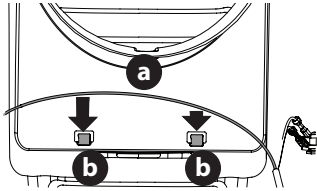

Figure 12
- Secure the headlight harness (a) into the two guides (b) on the front of the plenum (Figure 12).